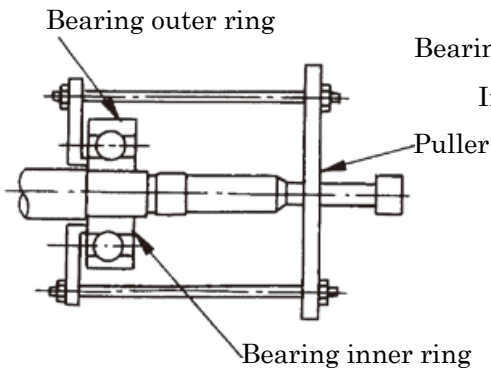
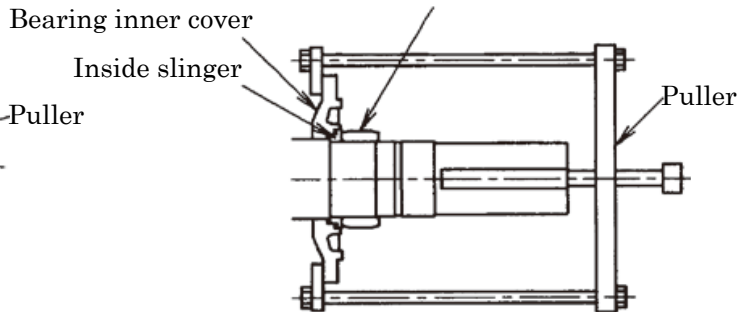

Fig.19 Removal of ball bearing
Fig.20 Removal of roller bearing inner ring
- (3) Pull out the ball bearing (Fig. 19) and roller bearing inner ring (Fig. 20) with a puller. In case of grease-replenish type structure, pull out above parts together with bearing inner cover and inside slinger.